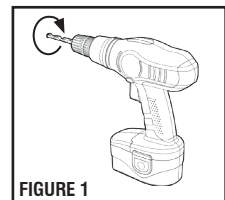

FIGURE 1
4. Please note the rotation direction of power drill. When power drill rotation is in the clockwise direction [FIGURE 1], the drill attachment fastens (pulling in). When the power drill rotation is in the counterclockwise direction [FIGURE 2], the drill attachment releases (pushing out).